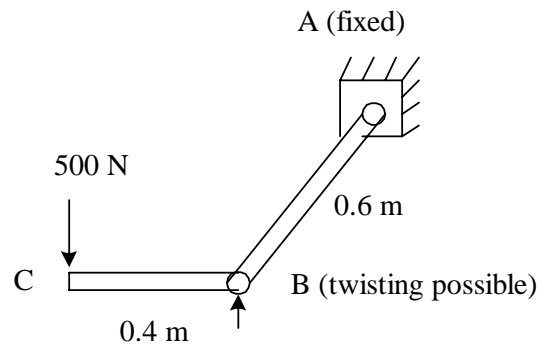

Fig. 3 Q.2 (a)
- Q.2** (a) A solid rod AB is attached to a rigid lever BC as shown in Fig. 3. Support A is fixed. Twisting is possible at B but vertical displacement is restrained. Determine the diameter of the rod AB so that the deflection at C does not exceed 25 mm and maximum shear stress does not exceed 100 MPa. **07**